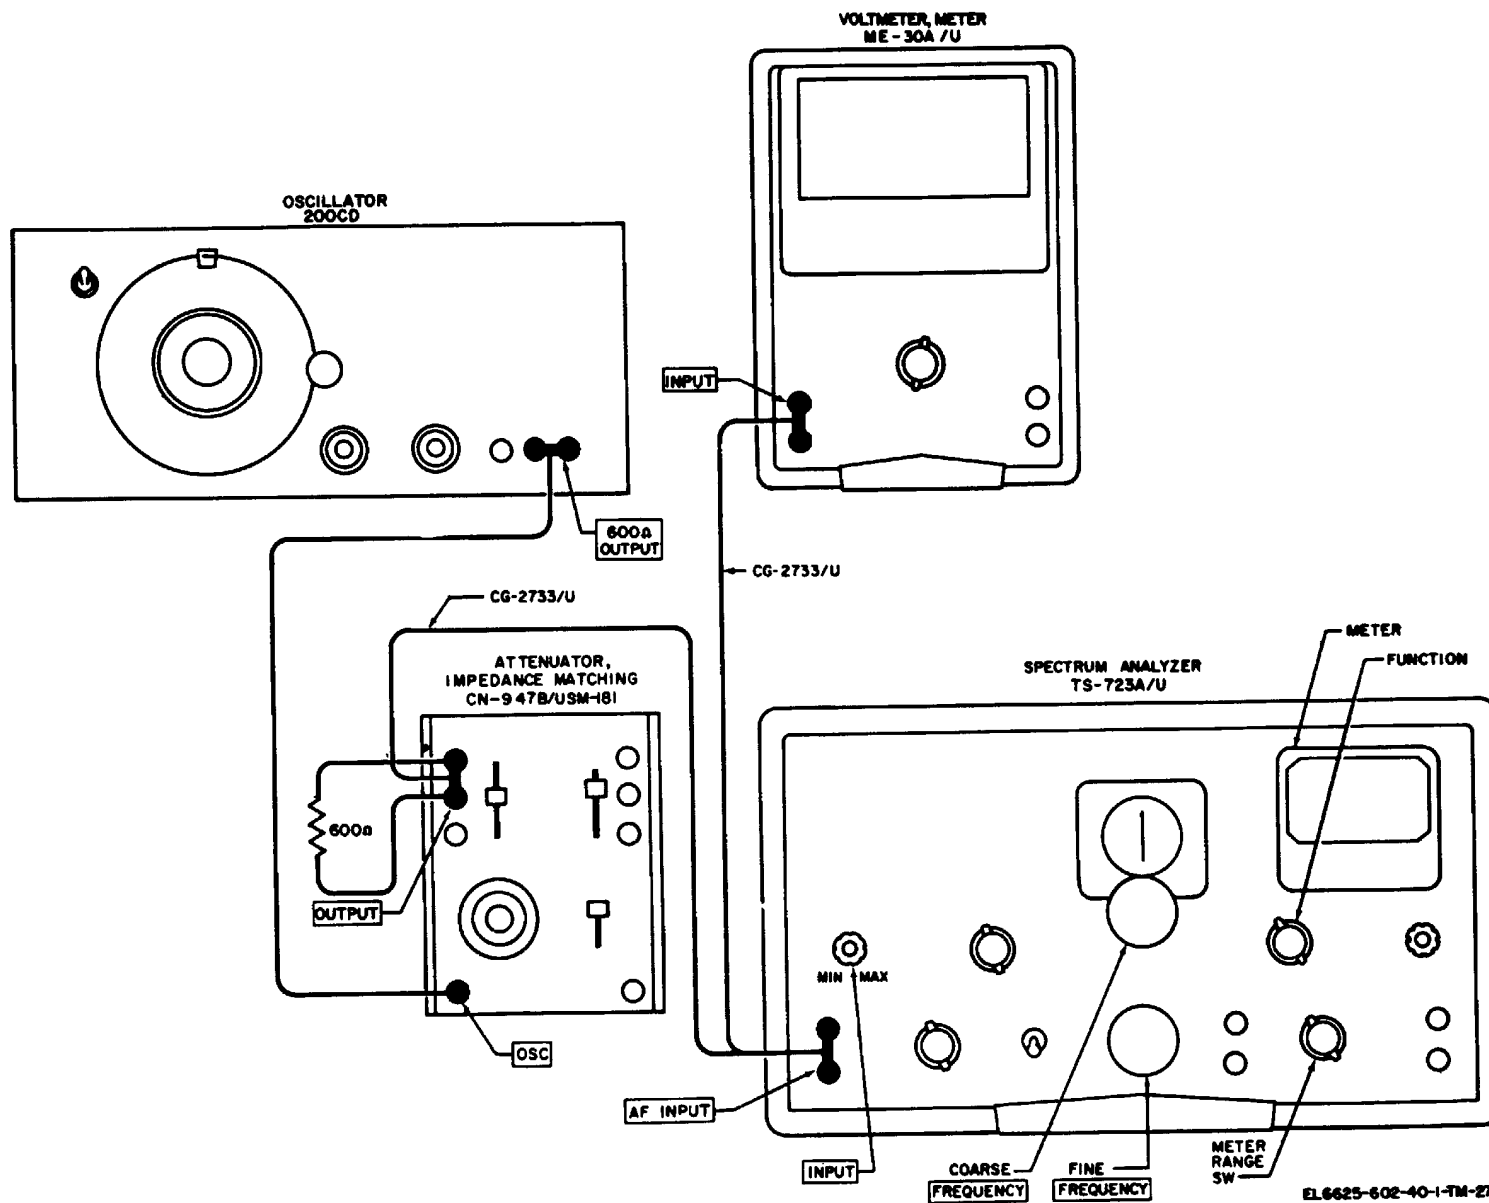

Figure 5-9. Attenuator, Impedance Matching CN-947B/USM-181 distortion test.
b. *Test Connections and Conditions.* Connect the attenuator to the 200 CD and ME-30A/U only as shown in figure 5-9.